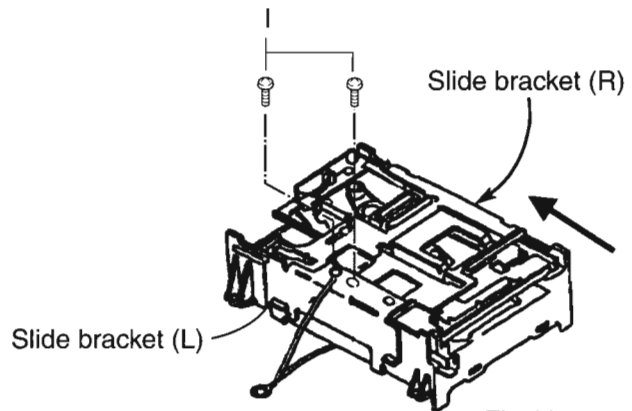

Fig.10
■ Removing the slide bracket (see Fig.10)
2. Remove the two screws I attaching the slide bracket (L).
3. Remove the slide bracket (L), then remove the slide bracket (R).